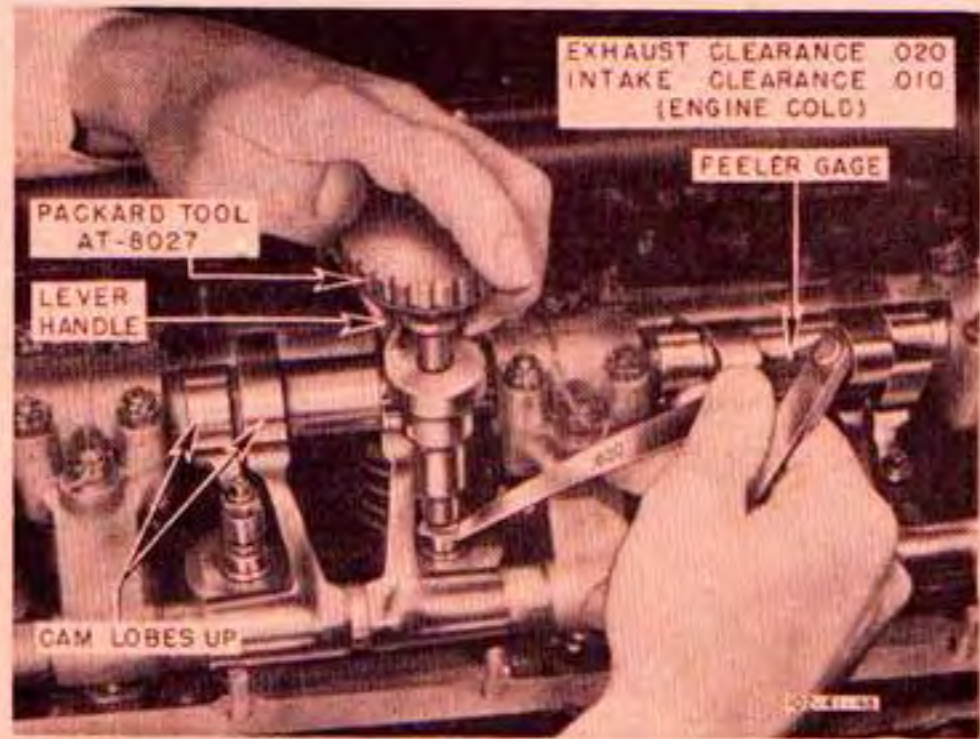

Figure 170—Adjusting Valve Clearances
- (4) Adjust exhaust tappets to .020-inch clearance and intake tappets to .015-inch clearance with special tappet wrench, Packard tool AT-8027. After adjusting a tappet, tighten locknut securely with level handle of wrench. (See figure 170.)